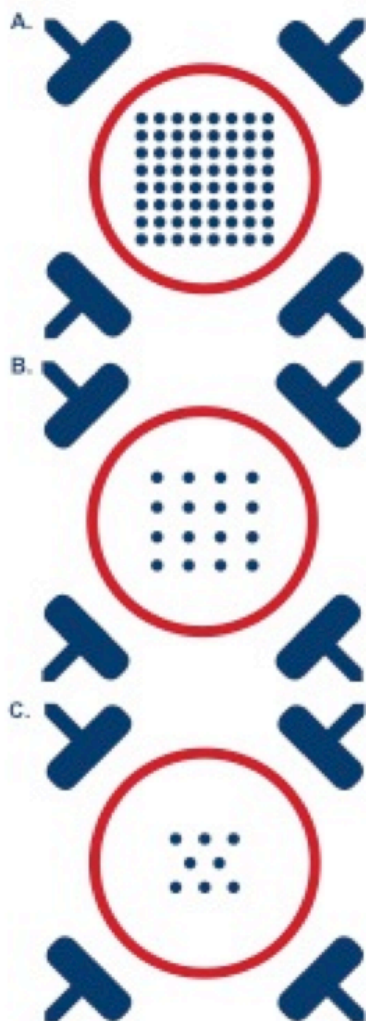

Figure 1: Drop Placement Diagram.
4. Add a 5 µL droplet of **Axol ReadySet** solution over the MEA electrode area in a biosafety cabinet. Incubate for 1 hour at 37°C in a cell culture incubator. See **Figure 1** for placement.
8. Add a 5 μ L droplet of **Axol Sure Bond** working solution over the MEA electrode area in a biosafety cabinet. See **Figure 1** for placement.
3. Seed a 5 μ L droplet of the suspension (80,000 hNPCs) directly over the array of electrodes in each pre-treated well. See **Figure 1** for an example of drop placement.